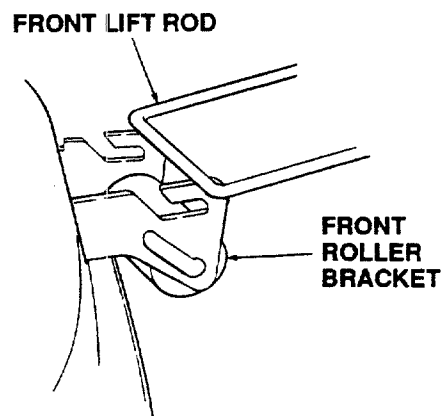

Figure 46
8. Raise the front lift rod upward and slide the mower deck rearward. Lower the front lift rod so it rests on the front roller bracket of the deck, forward of the slots (Refer to Figure 46).